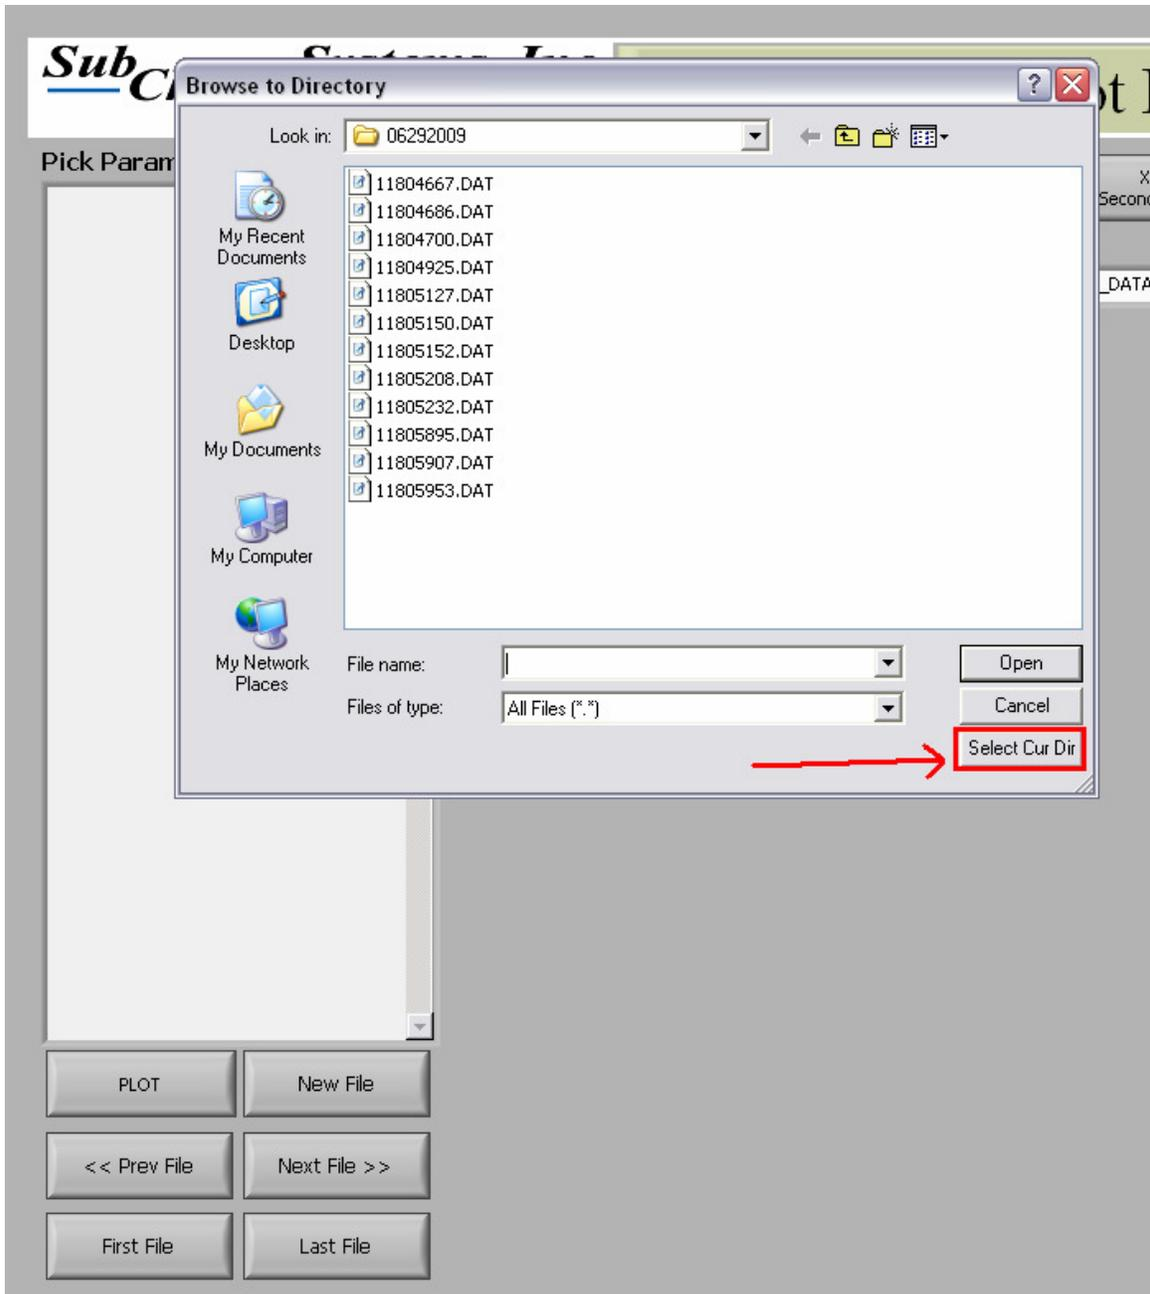

Figure 15: The PLOTTER application allows the user to navigate to a working directory
- 1) In most cases, ChemVIEW will create a folder called AUTO_DATA. Data sets retrieved will be date stamped in an additional folder with DAT files within. To facilitate looking at multiple data sets, the user can set the working directory to a folder containing many data sets by clicking on the folder icon next to the 'Choose Working Directory' path indicator. Then navigate to the folder of interest and press 'Select Cur Dir' once in the folder. See Figure 15 for help.